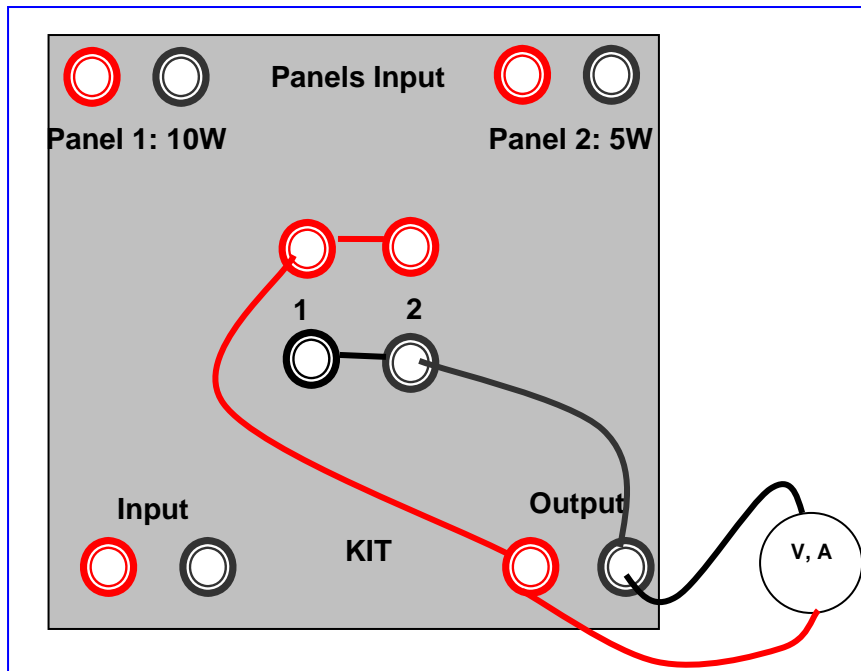

Figure 2.5 Different size modules are connected in parallel
- Connected in parallel (figure 2.5)